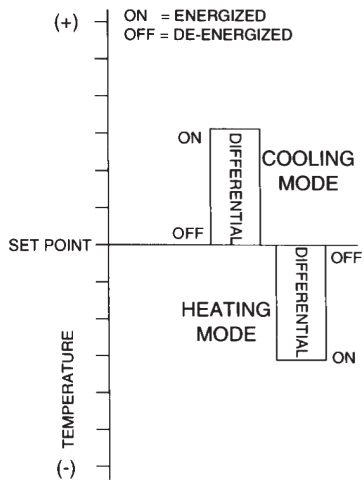

Figure 1: Setpoint and Differential Settings. Diagram indicates relay on and off points in either the heating or cooling modes
The temperature setpoint refers to the temperature at which the normally open (NO) contacts of the output relay will open. Determine the load (s) to be controlled and the operating mode required, cooling or heating. Refer to Figure 1 for a visual representation.